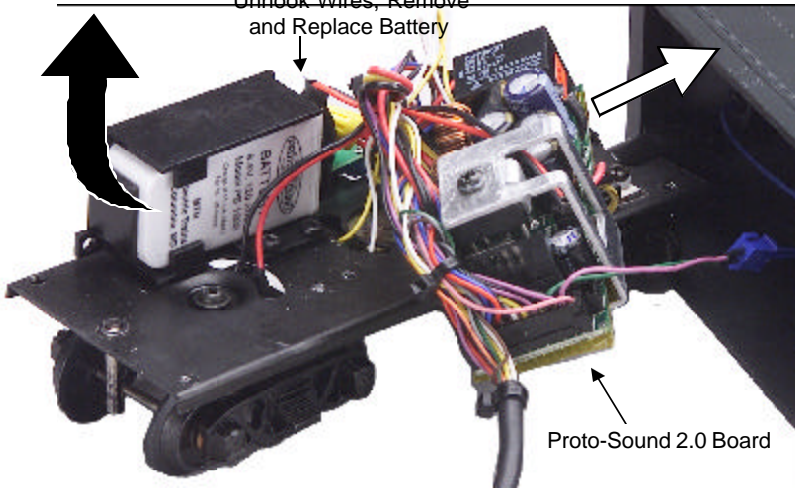

Figure 11. Replacing the Battery
- If the garbled or distorted sounds are reduced, the battery charge has run down and can be recharged. Do this by leaving the engine in neutral with track voltage at 12 volts for 6-7 hours so the battery can fully recharge (if your engine has a smoke unit, be sure it is turned off). Or you can remove the battery (see instructions on pg. 17, figure 11) and charge it in any standard slow charge battery recharger, following the recharger's directions.
- If the sounds are not improved at the end of the 15 minute test charge, it is time to replace the battery (see instructions on pg. 17, figure 11). Contact the M.T.H. Parts Department (phone: 410-381-2580; e-mail: [parts@mth-railking.com](mailto:parts@mth-railking.com); mail: 7020 Columbia Gateway Drive, Columbia MD 21046-1532) for a replacement battery. A standard 9v alkaline battery can be substituted until your replacement arrives, but since alkaline batteries cannot be recharged, it will eventually wear down. Do NOT use a 6-cell 7.2v battery like those found in most convenience stores.